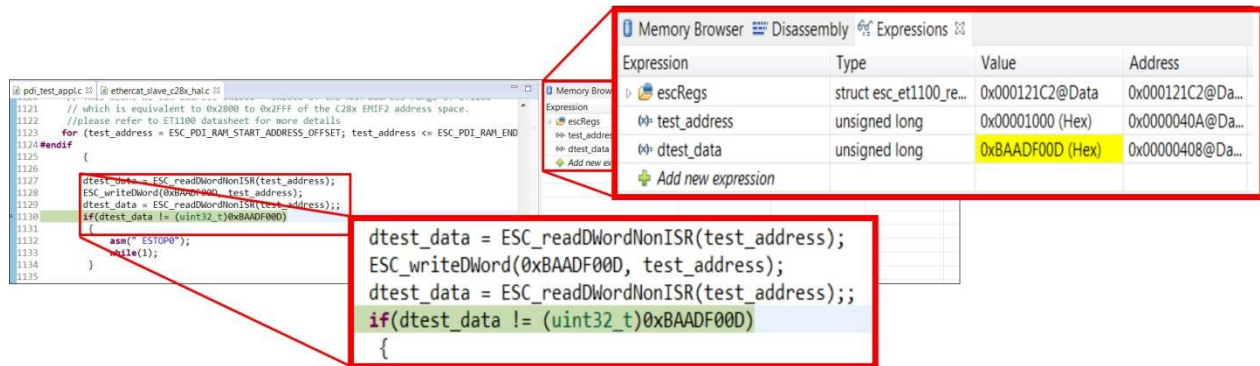

Figure 38. CCS Project Write to EtherCAT Slave
- Figure 38 shows program control after execution of the first 32-bit write and 32-bit read from PDI to ET100 address 0x1000.